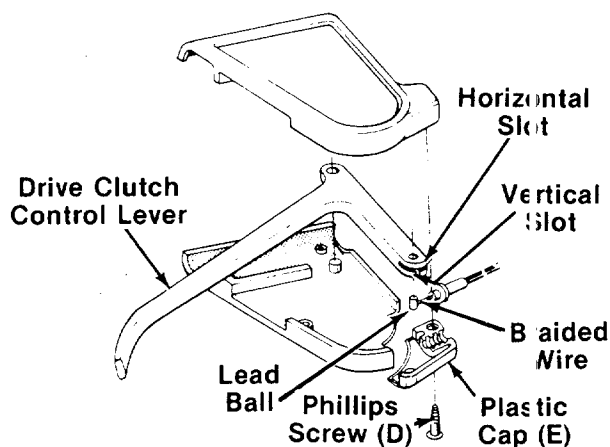

FIGURE 9.
b. Slide the braided wire around in the horizontal slot. See figure 9.
d. Secure the plastic cap (E) to the clutch control housing using the two Phillips head screws (D). See figure 9.